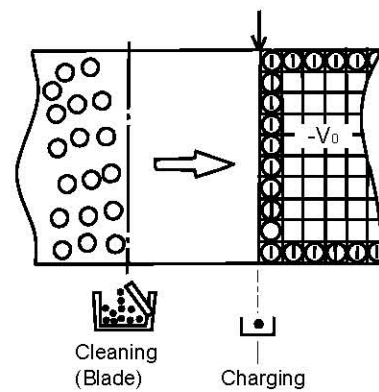

Fig. 4-12
- (2) Process of charging (Refer to Fig.4-12.)